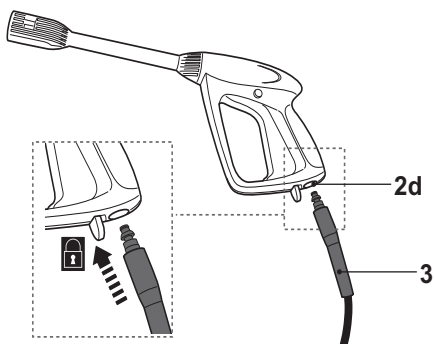
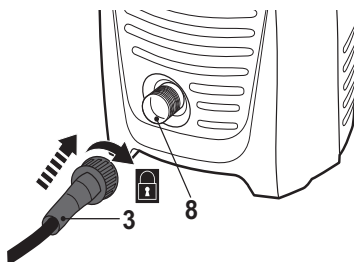

Fig. 3
Fig. 4
- > Insert the connector of the pressure hose (3) to the hose connection port (2d). Ensure it snaps in place (Fig. 3).
- > Remove the cap (8a) from the water outlet (8).
- > Screw the pressure hose (3) clockwise to the water outlet (8). Make sure the connection is properly tightened (Fig.4).